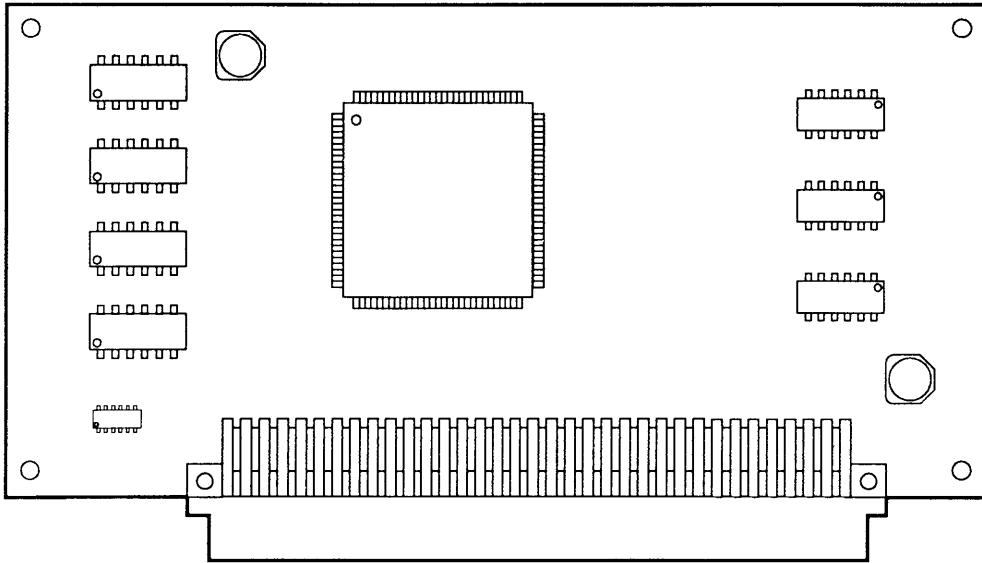

Figure 8 Macintosh IIci – Cache Card
□ MACINTOSH IICI – CACHE CARD (Figure 8)